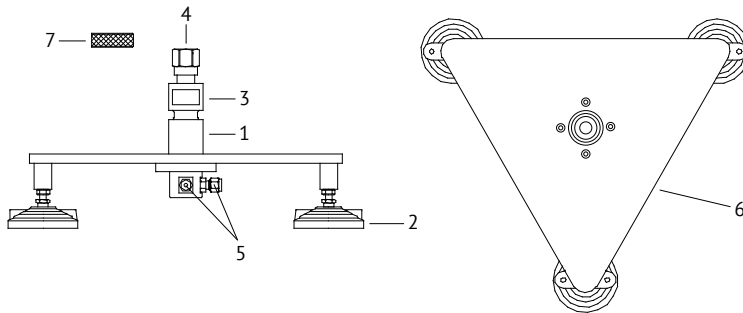

Fig. 1. Additional rack:
4.1 Panel overview is shown in Fig. 1.
4.2 Additional rack consists of the basement 6 (Fig. 1) made of steel plate where the rack 1 is mounted. The plate has three adjustable supports 2. Additional adapter 3 is mounted to the rack for manometer connection. Manometer is fastened by means of nut 4. To facilitate connection, connecting nut hand wheel 8 is used. Connection between the rack and the instrument to be tested is made by means of tube (steel or plastic depending on purpose) and fittings 5. There are 2 fittings - one is used for connection between the rack and the instrument, and the second is used for prospective connection with additional rack (this fitting is plugged). Fittings are installed at 90 degrees. For easy of mounting, fittings location with respect to basement 6 may be changed. For this, screw out screws 7 and rotate rack 1 to required position.